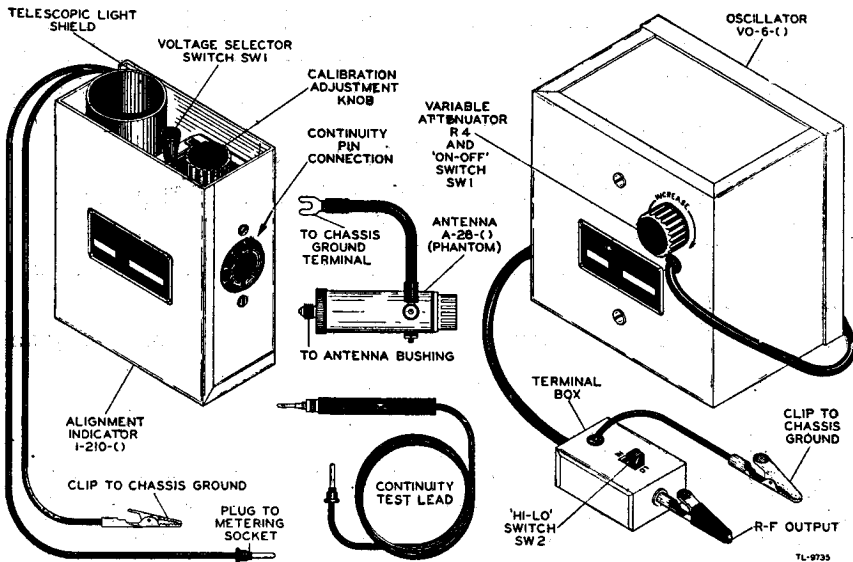

Figure 63. Maintenance Equipment ME-40-(), basic components.
(1) Analytical and inspection techniques based upon stop-start procedure and equipment performance.
(2) Instrument test methods based on the use of trouble charts and voltage or resistance measurements.
(3) Signal tracing or signal substitution methods based on tracing an applied signal through the various stages of the set.
93. Maintenance Equipment (fig. 63)